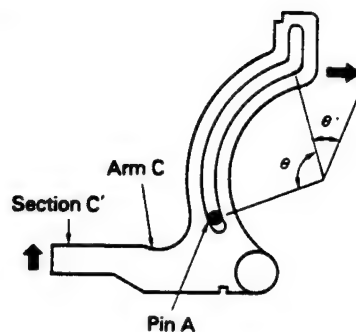

Fig. 13
5. As shown in Fig. 13, arm "C" (caulked to the chassis swivel) is fixed to pin "A" and when the degree of rotation is θ arm "C" is stationary, and when it is θ' arm "C" turns clockwise.